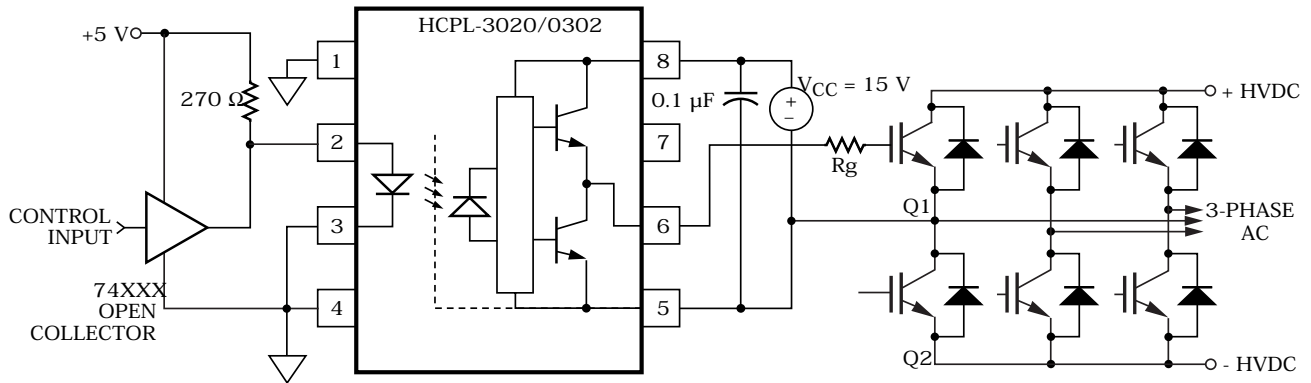
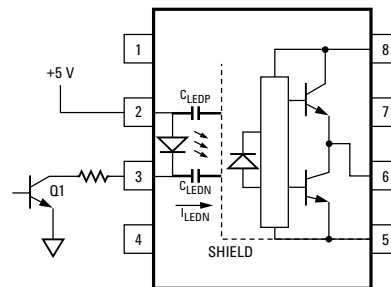

Figure 17. Recommended LED drive and application circuit for HCPL-3020 and HCPL-0302.
Figure 22. Not recommended open collector drive circuit.
To keep the IGBT firmly off, the HCPL-3020 and HCPL-0302 have a very low maximum V_{OL} specification of 1.0 V. Minimizing R_g and the lead inductance from the HCPL-3020 or HCPL-0302 to the IGBT gate and emitter (possibly by mounting the HCPL-3020 or HCPL-0302 on a small PC board directly above the IGBT) can eliminate the need for negative IGBT gate drive in many applications as shown in Figure 17. Care should be taken with such a PC board design to avoid routing the IGBT collector or emitter traces close to the HCPL-3020 or HCPL-0302 input as this can result in unwanted coupling of transient signals into the input of HCPL-3020 or HCPL-0302 and degrade performance. (If the IGBT drain must be routed near the HCPL-3020 or HCPL-0302 input, then the LED should be reverse biased when in the off state, to prevent the transient signals coupled from the IGBT drain from turning on the HCPL-3020 or HCPL-0302.
Step 1: Calculate R_g minimum from the I_{OL} peak specification. The IGBT and R_g in Figure 17 can be analyzed as a simple RC circuit with a voltage supplied by the HCPL-3020.
where $K_{I_{CC}} \cdot Q_g \cdot f$ is the increase in I_{CC} due to switching and $K_{I_{CC}}$ is a constant of 0.001 mA/(nC*kHz). For the circuit in Figure 17 with I_F (worst case) = 10 mA, $R_g = 57.5 \Omega$, Max Duty Cycle = 80%, $Q_g = 100$ nC, $f = 20$ kHz and $T_{AMAX} = 85^\circ\text{C}$:
perturbations in the LED current during common mode transients and becomes the major source of CMR failures for a shielded optocoupler. The main design objective of a high CMR LED drive circuit becomes keeping the LED in the proper state (on or off) during common mode transients. For example, the recommended application circuit (Figure 17), can achieve $10 \text{ kV}/\mu\text{s}$ CMR while minimizing the component complexity.
The open collector drive circuit, shown in Figure 22, cannot keep the LED off during a $+dV_{CM}/dt$ transient, since all the current flowing through C_{LEDN} must be supplied by the LED, and it is not recommended for applications requiring ultra high CMR₁ performance. The alternative drive circuit, which like the recommended application circuit (Figure 17), does achieve ultra high CMR performance by shunting the LED in the off state.